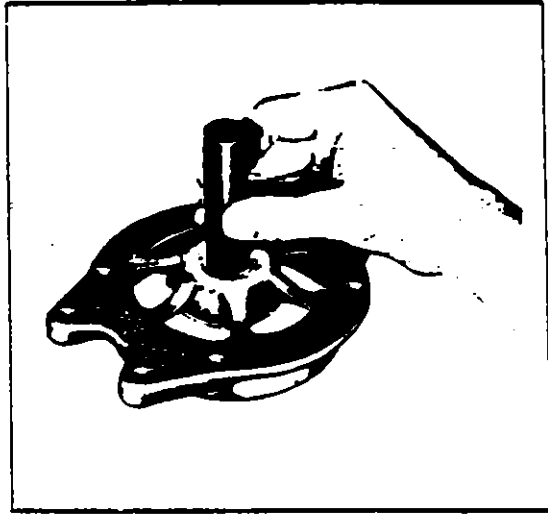

FIGURE 9-27f. REMOVAL OF END
f. To remove the drive end head from the rotor shaft, use a puller that grips on the bearing retainer plate as shown in Figure 9-27e. Do not attempt to remove by supporting the end head and pressing on the shaft, as this may result in distortion of the end head or stripping of the retainer plate screws. Remove the three retainer plate screws and press the bearing out of the end head. (Refer to Figure 9-27f.)